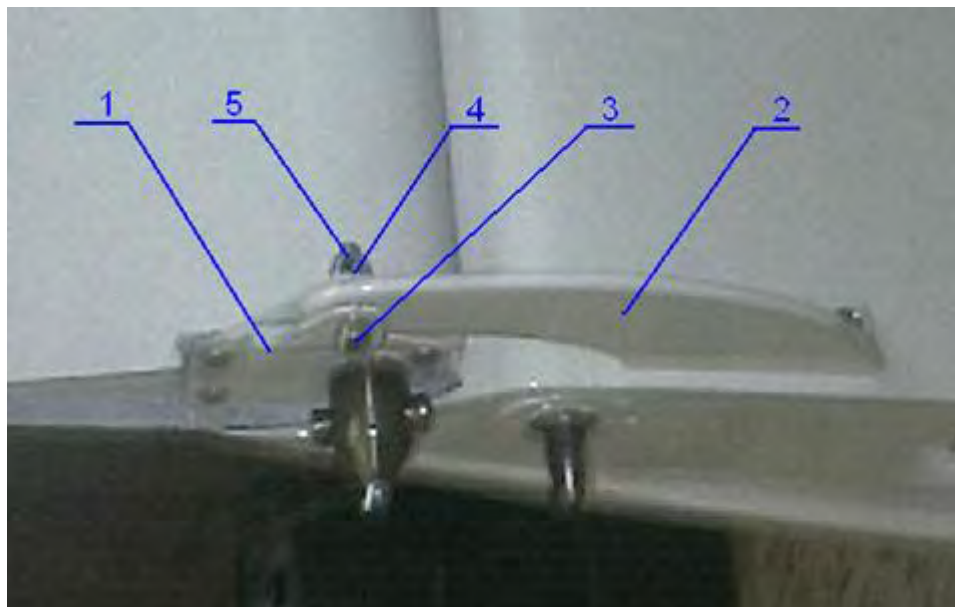
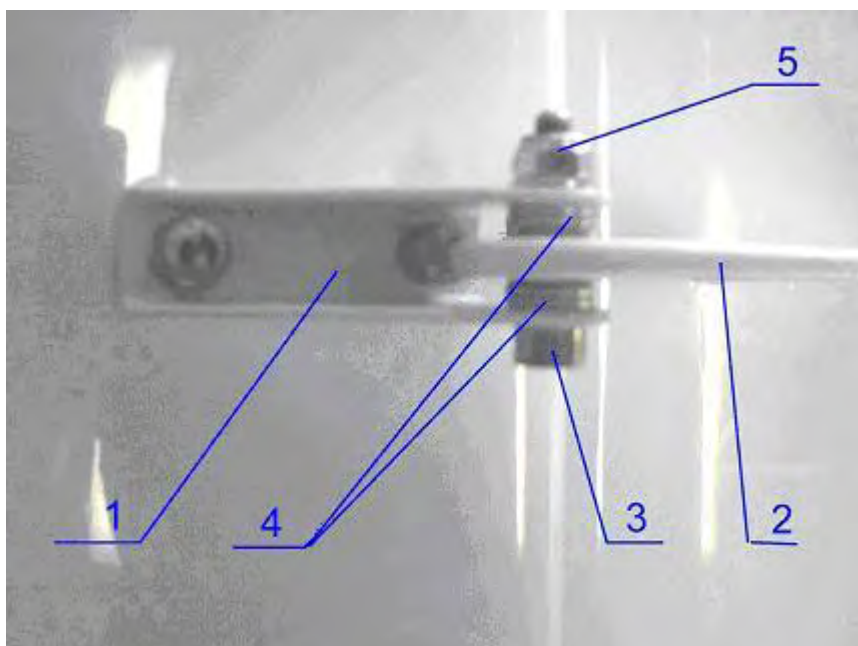
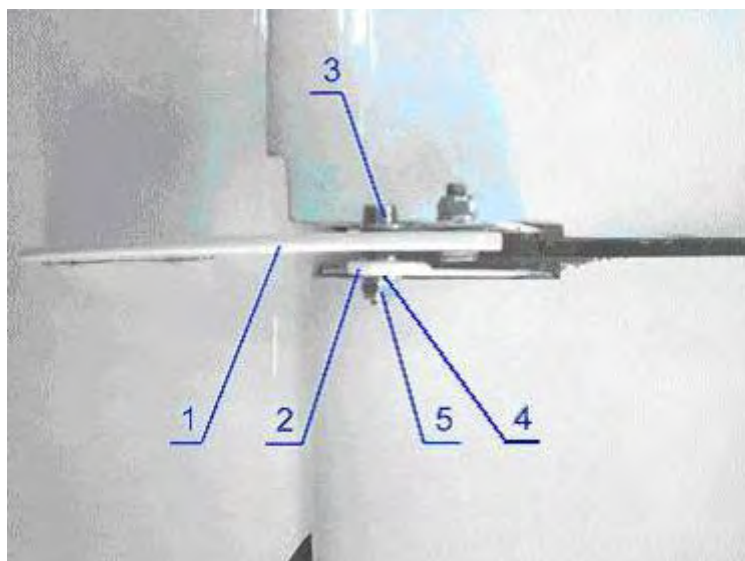

Fig. 2
Fig. 3
Fig. 4
Match the hole in the root flap bracket (1) (KW2040010R for the right wing, or KW2040010L for the left wing) with the hole in the bushings of the bearing of the wing bracket No.1 (2) (KW2010010 for the right wing, or KW2020010 for the left wing) and connect them by the bolt (3) KA2020006 (but do not fix the bolt by the nut (5) (C9996334, Self-locking nut DIN 985-M6, regular), Fig. 2.
Match the holes in the flap mid bracket (1) (KW2040020R for the right wing or KW2040020L for the left one) with the hole in the bushing of the bearing of the bracket No.2 (2) (KW2010020 for the right wing or KW2020020 for the left wing), put four washers (4) (C9996565, Washer DIN 9021-6.4 mm VZ) between the flap bracket and wing bracket (2 from one side of the wing bracket and 2 from other one) and connect them (brackets) by the bolt (3) KA2020007 (but do not fix the bolt by the nut (5) (C9996334, Self-locking nut DIN 985-M6, regular). Fig. 3.
Match the holes in the outer flap bracket (1) (KW2040030R for the right wing or KW2040030L for the left wing) with the hole in the bushing of the bearing of the wing bracket No.3 (2) (KW2010030 for the right wing or KW2020030 for the left wing) and connect them by the bolt (3) KA2020006 Fig. 4.
Using a washer C99965604 (Washer DIN 125 A2B-6.4 mm) and the nut (5) (C9996334, Self-locking nut DIN 985-M6, regular) fix the bolts (3) KA2020007 Fig. 3, (3) KA2020006 Fig. 2, Fig. 4. Use new nuts only. Torque the nut with one 8x10 wrench and one 5 hex-nut wrench to 80 lb-in / 9 Nm, Fig. 2, Fig. 3 and Fig. 4.